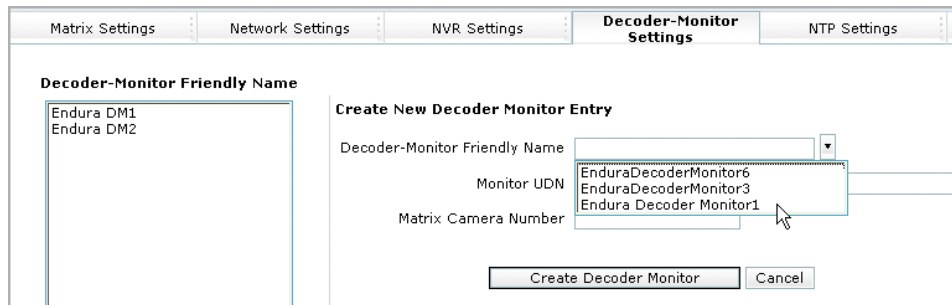

Figure 29. Adding a Decoder-Monitor Entry to the EDI5000 Configuration
1. Click the Decoder-Monitor Friendly Name box to see a list of available decoding devices in the Endura system (refer to Figure 29 on page 28).